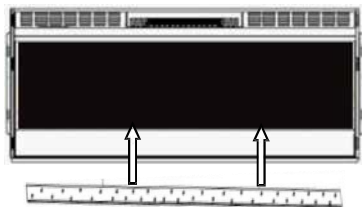

Figure 6-2
- D. Place the plastic tray to the fireplace designed place. then carefully place crystal ember into the bottom tray on the front of the appliance as illustrated. Apply an even layer from side to side. **Figure 6-2, Figure 6-3.**